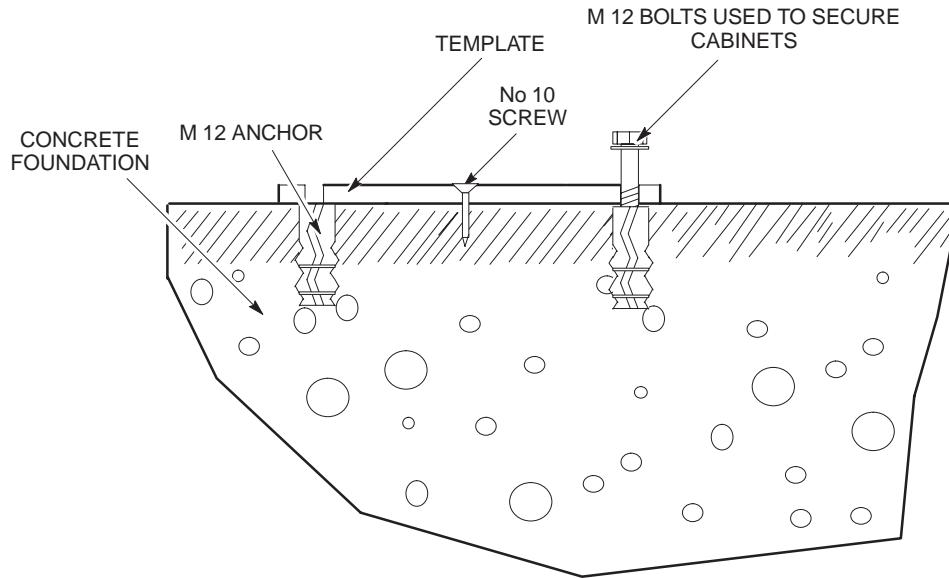

Figure 2-6 Typical *Horizonmacro* foundation
The following cross-sectional diagram in Figure 2-6 shows a typical foundation for the *Horizonmacro* (bolts and anchors not to scale).
1. Excavate the foundation (refer to Figure 2-6).